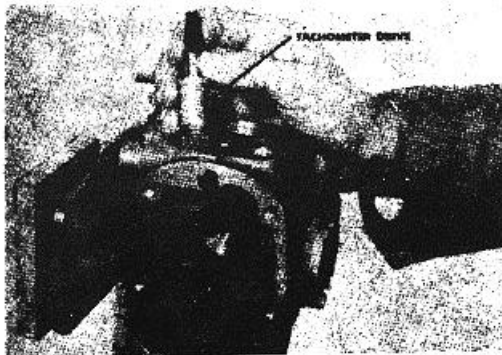

Figure 4-54. Assemble tachometer drive assembly.
1. Place the fuel pump housing on the mounting bracket and mount on the holding fixture. Fig. 4-54.